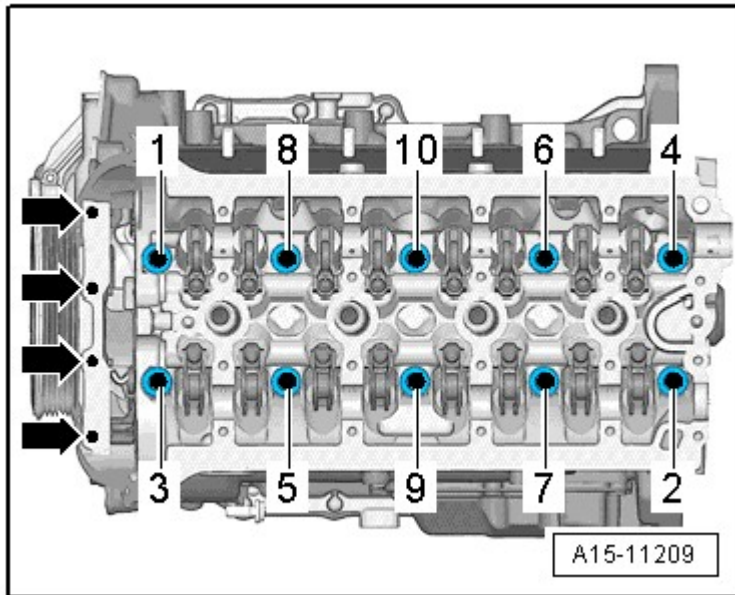

Fig. 19: Loosening Cylinder Head Bolts In Sequence
- Follow the procedure when loosening. Refer to **Fig. 19**.